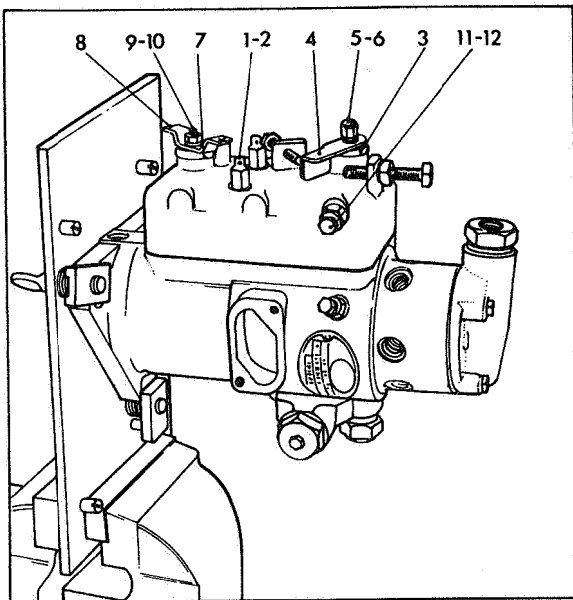

Fig 32 Fitting throttle arm
Assemble cover stud washers and cover stud nuts (1 & 2) Fig 32 and tighten. Assemble throttle dust cap (3), throttle arm (4), throttle lever washer (5) and screw on the throttle lever nut (6). Assemble shut-off dust cap (7), shut-off lever (8), shut-off lever washer (9) and screw on the shut-off lever nut (10). Assemble washer (11) and screw in vent screw assembly (12) and tighten all nuts to correct torque values.